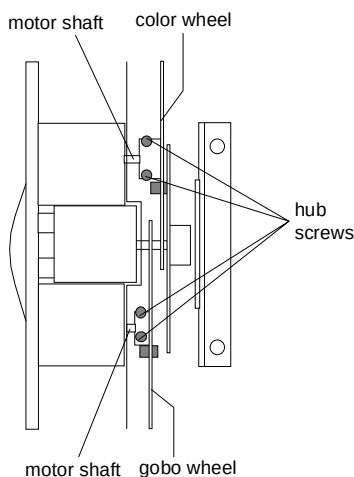

Figure 3-17. Allen screws on the color wheel and gobo wheel hubs
2. Remove the fixture's access door and locate the color and gobo wheels (see Figure 3-17).
4. Loosen, *but do not remove*, the two allen screws located on the wheel's hub (see Figure 3-17).